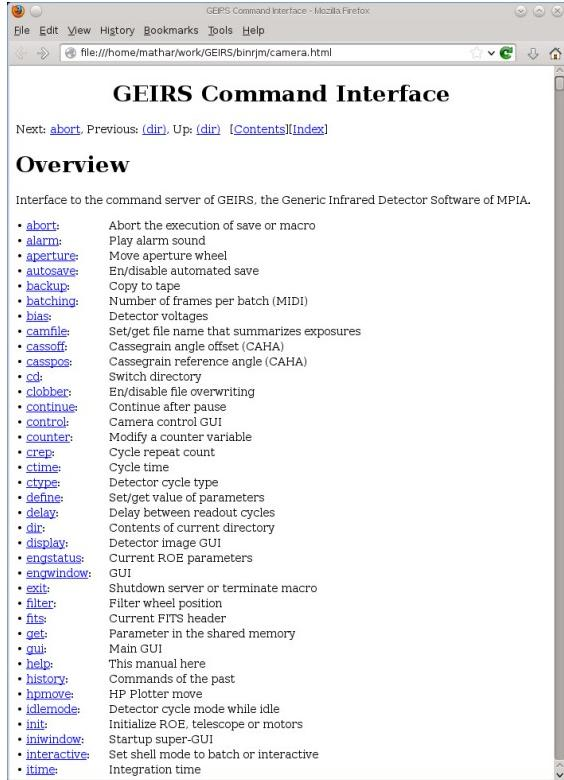

Figure 7: The web browser called by the **Help** button in Figure 6.
- **Help** Opens a web browser which shows a HTML version of the command list, similar to Figure 7, equivalent to the contents of Section 5.3. This will fail if the environment